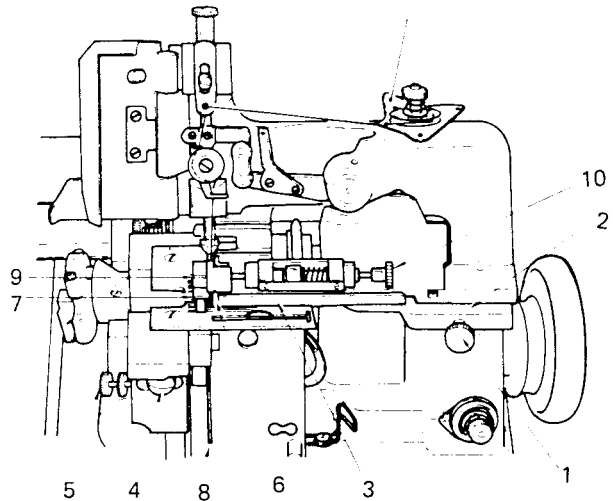

Fig. 16
17. TO REPLACE THE KNIVES (See Fig. 16)